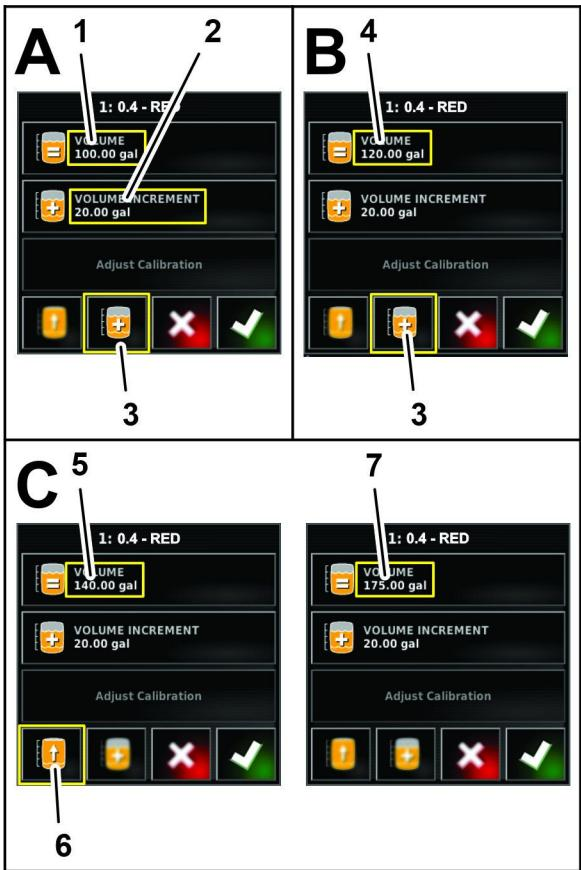

Figure 127
- If you are incrementally adding chemicals to water, press the VOLUME INCREMENTS icon (Figure 127).
- Use the numeric pad of the display to enter increment of the volume of product (such as chemicals to water) that you will add product to the tank, and press the confirm icon (Figure 127).
- If you are incrementally adding chemicals to water, add the product into the tank and press the INCREMENT AMOUNT OF PRODUCT icon (Figure 127).
8. If you are filling the tank to capacity with a product or water, you can press the FILL TANK TO CAPACITY icon (Figure 127).